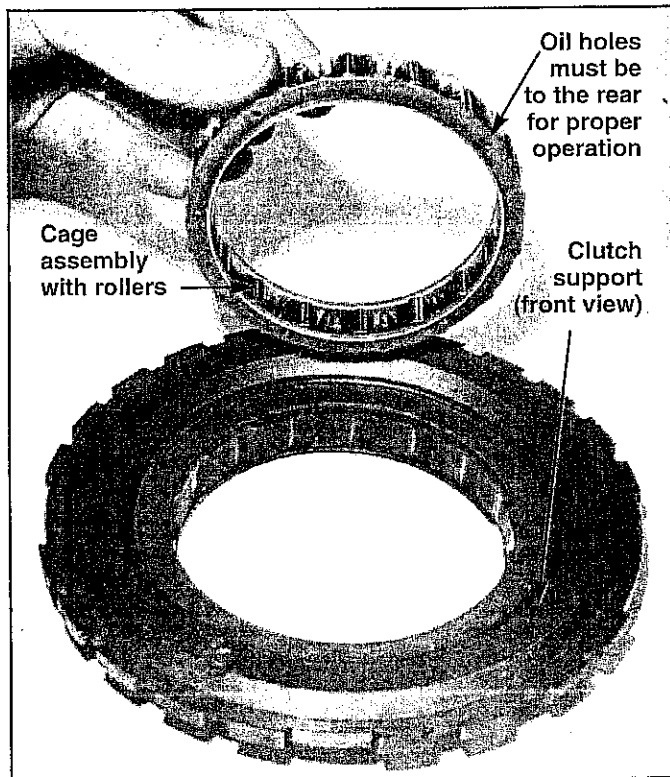

FIGURE 46
STEP 11. Install rollers into cage from the outside to avoid bending springs. Install cage assembly into clutch support with four lube holes (0.091) on cage end towards rear. (See Fig. 46) Install retaining snap ring. Make sure snap ring is fully seated in its groove.